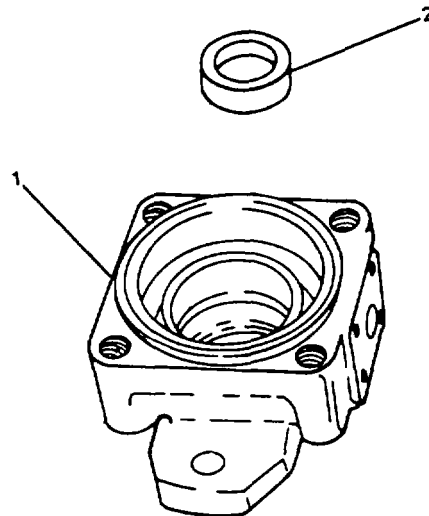

FIGURE 4-41. Front Mounting Cap.
- c. Install bearing (6) and retaining ring (7) on shouldered shaft (3). Ensure that retaining rings (5, 7) are fully seated in ring groove.
- e. Install shaft seal (2, FIGURE 4-41) in front mounting cap (1) by gently tapping shaft seal with a softface (lead, brass, plastic or rubber) hammer.